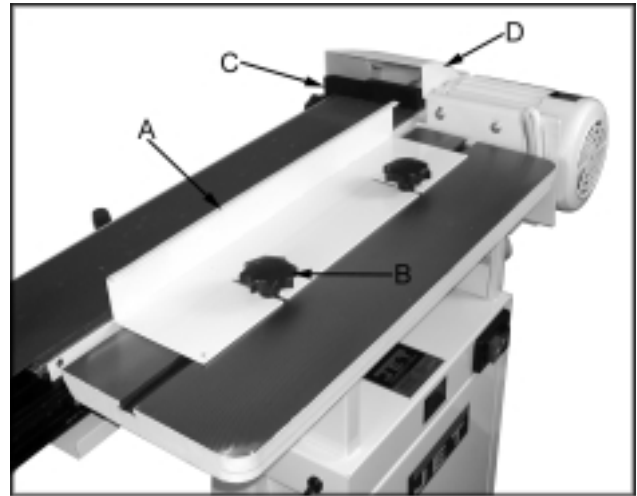

Fig. 6
22. Attach the extension cover (D, Fig. 6) with *three* pan head screws and one lock knob.
With the sanding platen locked in the horizontal position, the removable fence (A, Fig. 6) may be used. The fence can be secured in place by screwing two lock knobs (B, Fig. 6) into the guide blocks found in the miter slot. Adjust the table so the fence is at a good height, see "Table Adjustment" page 13..
The backstop (C, Fig. 6) can also be used by removing the extension pin cover (D, Fig. 6) and placing the backstop pin in the positioning hole and securing in place with the lock knob. The extension cover can be reinstated.